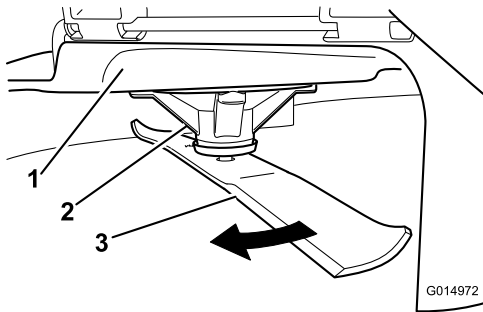

Figure 89
2. While wearing thickly padded gloves, or other adequate hand protection, slowly rotate the blade into a position that allows you to measure the distance between the cutting edge and the level surface the machine is on (Figure 89).